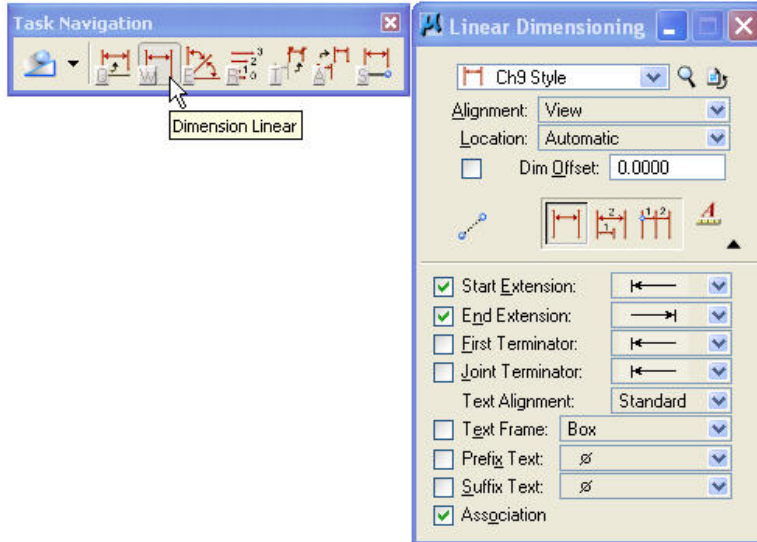

Figure P9-6 Invoking the Dimension Linear tool
STEP 1: To place the vertical dimension, invoke the Dimension Linear tool from the Task Navigator tool box (active task set to Dimensions). In the tool settings window, expand the window by clicking the **Show Basic Options** arrow and select the **Linear Size** tool. Set the other options on the tool settings box to match Figure P9-6.